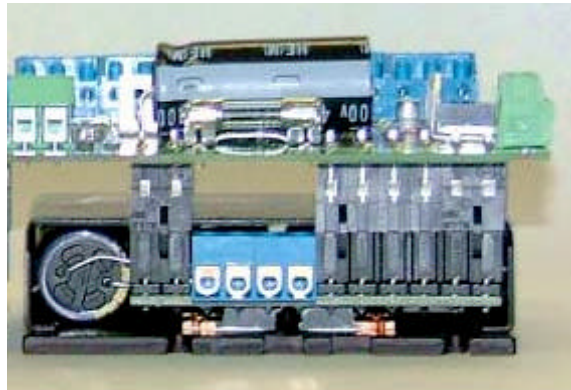

Figure 1 – Sample PMDX-131 and Geckodrive Assembly
7. For each Gecko stepper driver module, install the motor current set resistor in the corresponding 2-pin terminal strip on the PMDX-131. When looking at the PMDX-131/Geckodrive assembly from the edge as shown in Figure 1, this would be the green 2-pin terminal strip above and to the right of each Geckodrive module.
9. The resulting assembly should look similar to Figure 1.